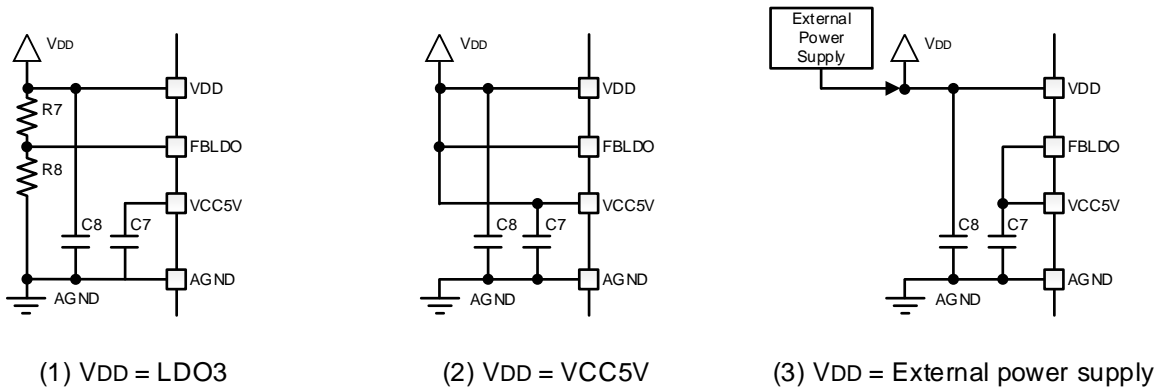

Figure 5-2 VDD Pin Voltage Supply Methods
(1) Supply using LDO3
The external connection and components are shown in **Figure 5-2 (1)**. The LDO3 output voltage VDD is determined by the bleeder resistors (R7, R8) that are fed back to the FBLDO pin, allowing fine adjustment of the output voltage within the recommended operating conditions. The bleeder resistors should be selected based on **EQ 5-1**. Increasing the total value of the bleeder resistor can reduce the current consumption in Sleep Mode. However, note that the stability is reduced by the pole determined by the parasitic capacitance of FBLDO pin and the bleeder resistors.
(2) Supply 5V from the VCC5V pin
The external connection and components are shown in **Figure 5-2 (2)**. A 0.1 μ F ceramic capacitor is recommended as a decoupling capacitor (C8) for the VDD pin. This capacitor should be placed as close as possible to the VDD and AGND pins.
(3) Supply using an external power supply
The external connection and components are shown in **Figure 5-2 (3)**. Connect an external power supply to the VDD pin. Also, connect the FBLDO pin to the VCC5V pin. Note that the recommended operating voltage range VDDope for the VDD pin voltage is limited from 3.135 to 5.25V. A 0.1 μ F ceramic capacitor is recommended as the decoupling capacitor (C8) on the VDD pin. This capacitor should be placed as close as possible to the VDD and AGND pins.